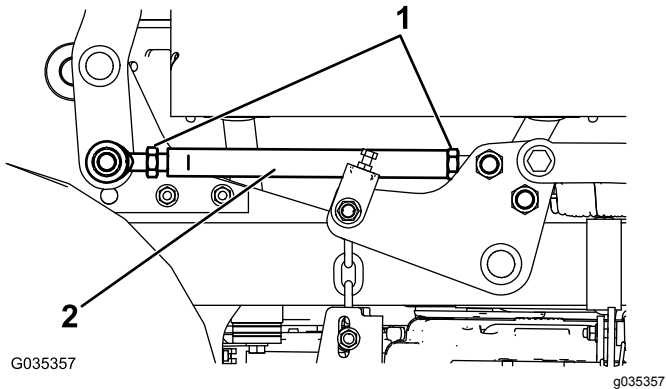

Figure 3
- Loosen the 2 jam nuts on the height-of-cut linkage (Figure 3).